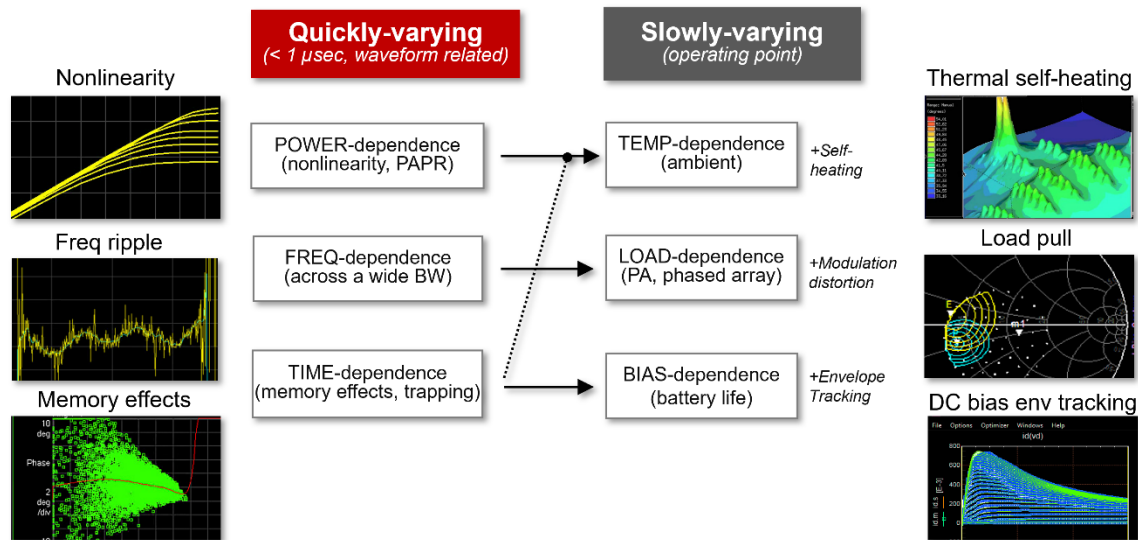

Figure 1. Cross-domain effects can vary quickly or slowly, with one event driving others in one or more domains
- Cross-domain interactions (such as in Figure 1) happen as effects combine from one or more of the time, frequency, power, temperature, load, and bias domains. Designers often explore these domains one at a time, but in a complex 5G design, it may be difficult but necessary to analyze them all at once.